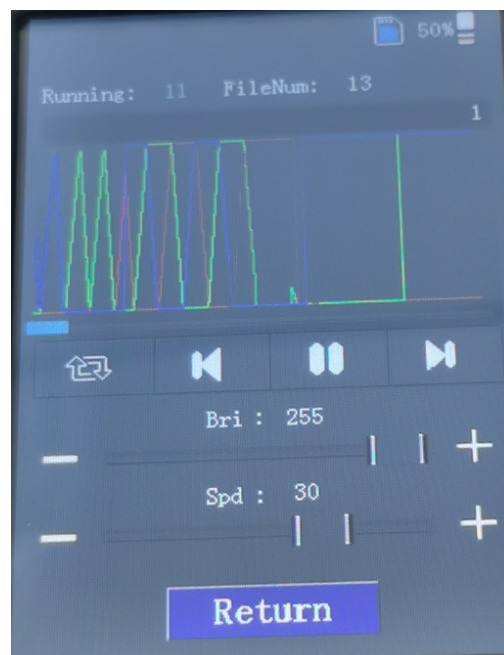

Figure-5
1) Click"Play" button to go to the program playing interface,show as figure-5.